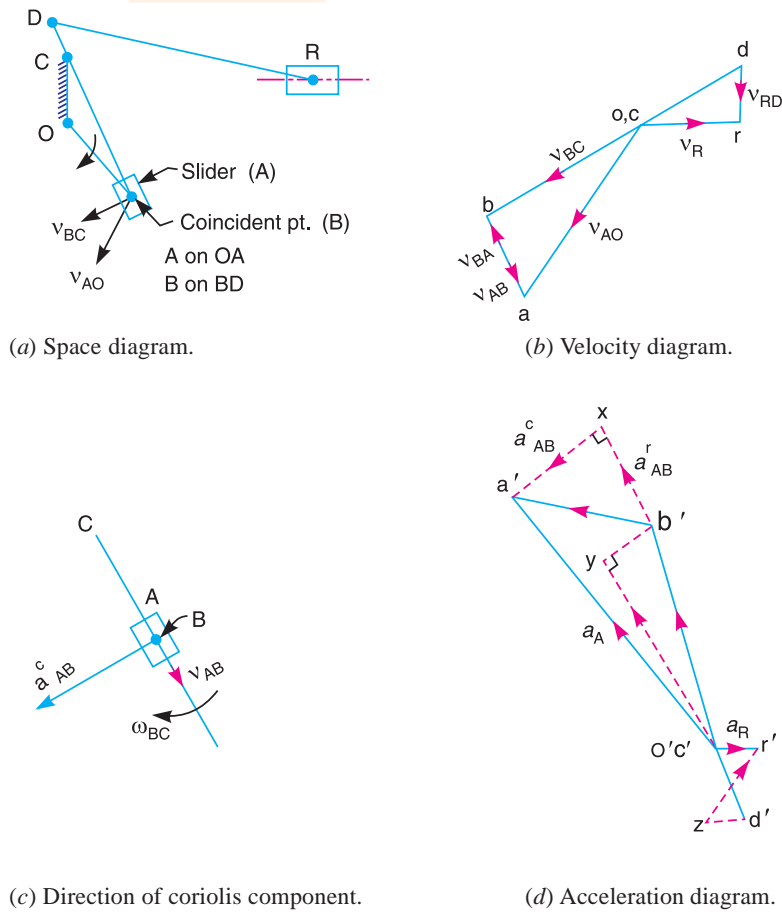

Fig. 8.33
First of all draw the space diagram, to some suitable scale, as shown in Fig. 8.33 (a). Now the velocity diagram, as shown in Fig. 8.33 (b), is drawn as discussed below:
**Note:** Since we have to find the coriolis component of acceleration of slider A with respect to coincident point B, therefore we require the velocity of A with respect to B i.e.  $v_{AB}$ . The vector ba will represent  $v_{AB}$  as shown in Fig. 8.33 (b).
Now the acceleration diagram, as shown in Fig. 8.33 (d), is drawn as discussed below:
These two components are mutually perpendicular. Therefore from point  $a'$  draw vector  $a'x$  perpendicular to  $BC$  to represent  $a_{AB}^c = 0.576 \text{ m/s}^2$  in a direction as shown in Fig. 8.33 (c), and draw vector  $xb'$  perpendicular to vector  $a'x$  (or parallel to  $BC$ ) to represent  $a_{AB}^r$  whose magnitude is yet unknown.